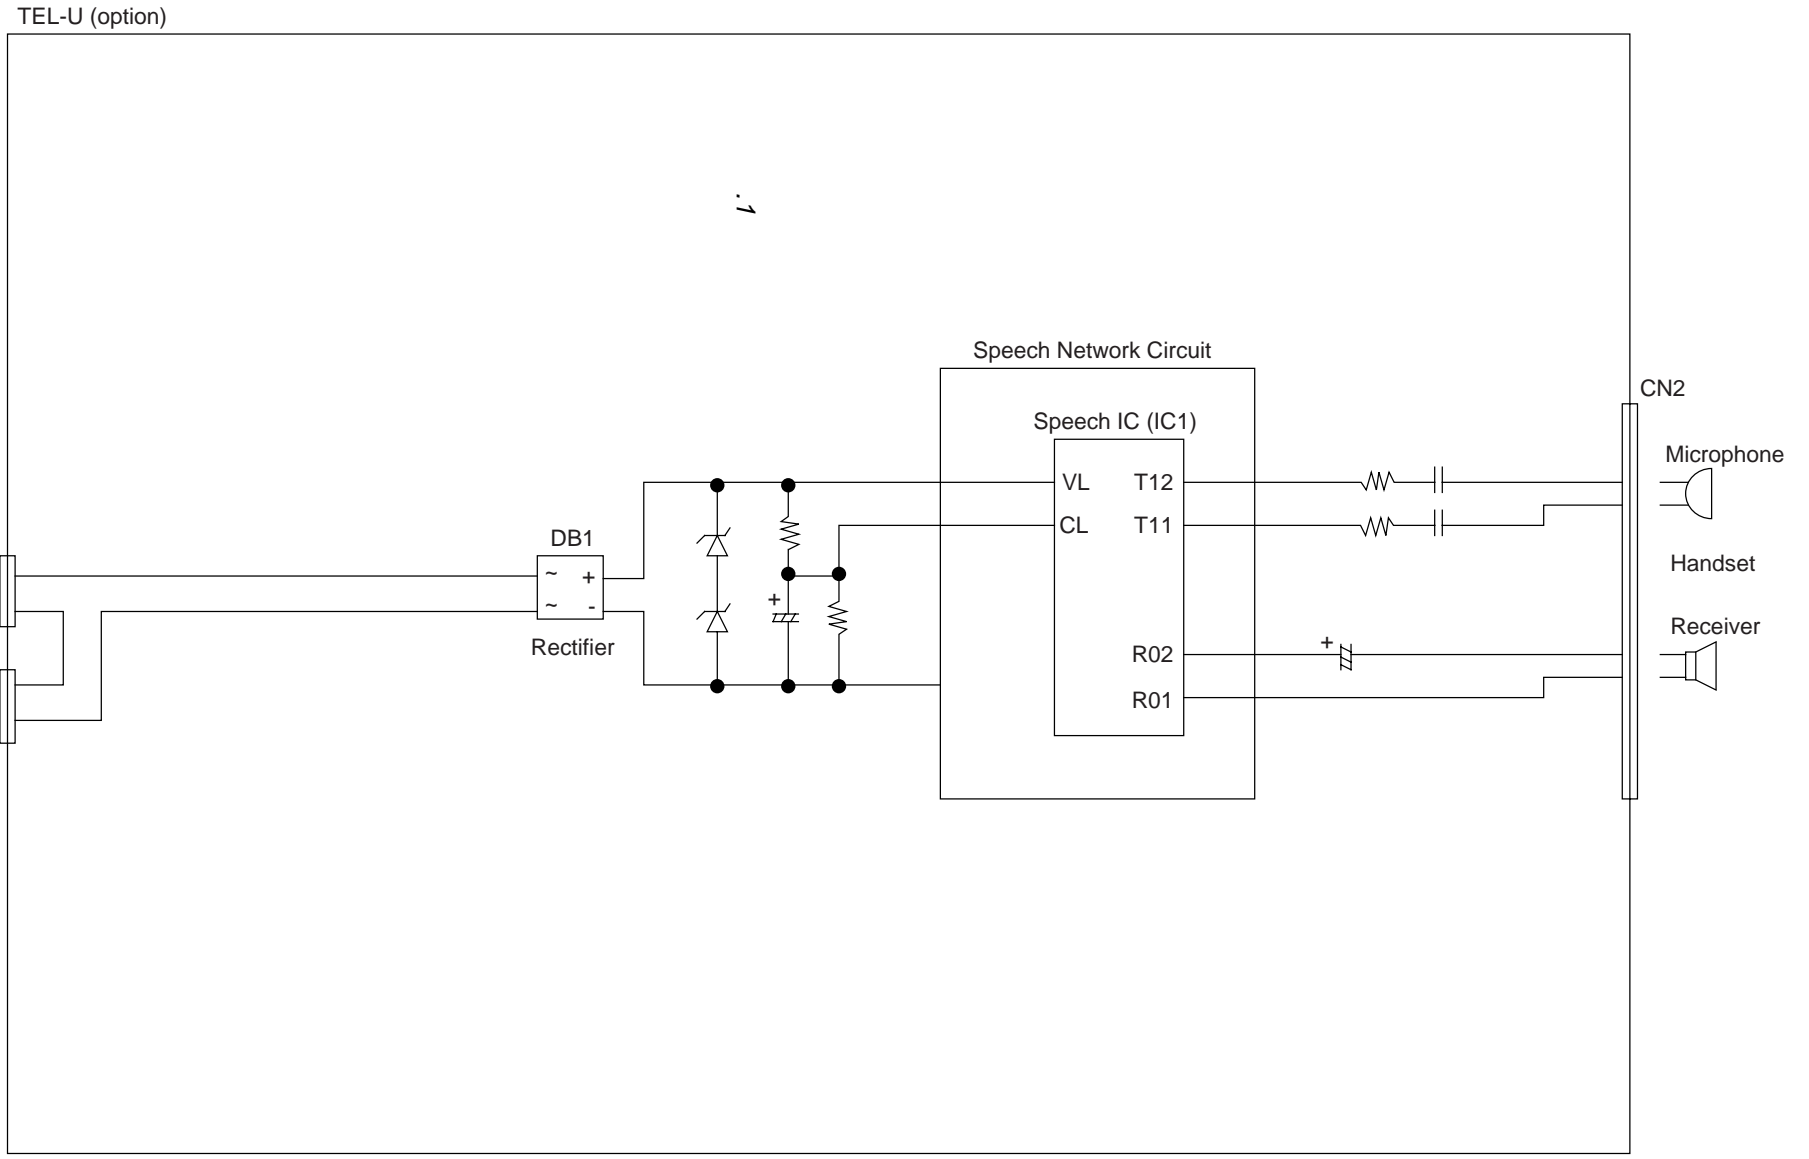

Figure A3.5.1 Block Diagram of TEL-U (option)
- Figure A3.5.1 shows a block diagram of TELU circuit.